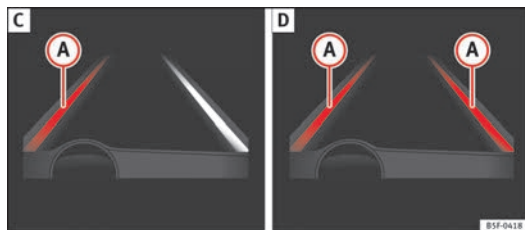

Fig. 146 On the instrument panel display: Indication on the Lane Assist system display (example 2).
- The system is operational, the highlighted line (A) indicates that there was a risk of involuntarily crossing the lane line and that the steering is being adjusted to correct the angle ⇒ Fig. 146 C.
- The two lines (A) light up simultaneously when both lane lines are recognised and the Lane Assist function is active ⇒ Fig. 146 D.